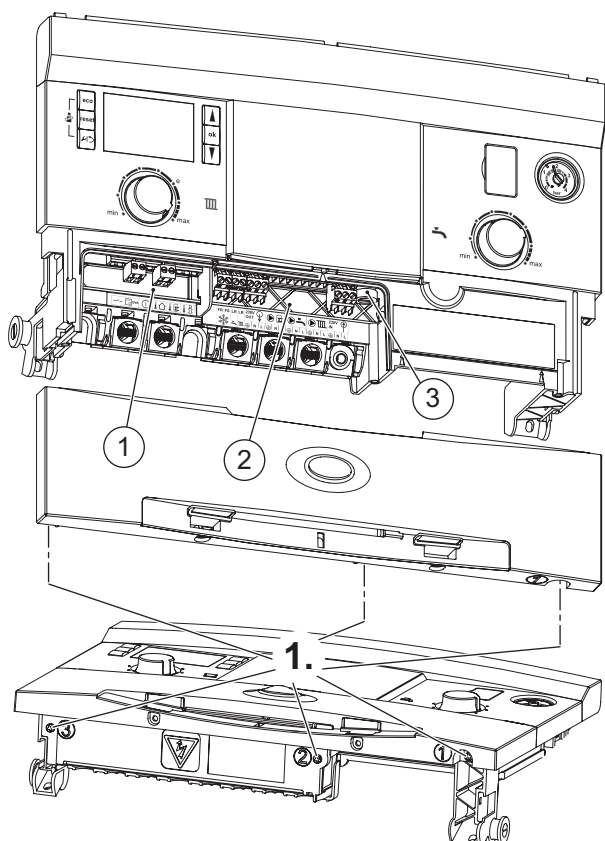

Fig. 45 Removing the installer access cover
1. Refer to figure 45 and release the three captive screws securing the Installer access cover.